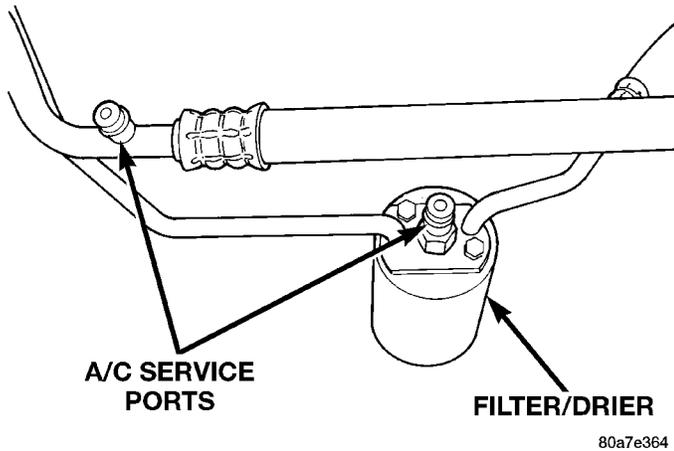

Fig. 17 A/C Service Ports
- Connect a manifold gauge set to the A/C service ports (Fig. 17).
- (1) If using a separate vacuum pump close all valves before disconnecting pump. Connect manifold gauge set to the A/C service ports (Fig. 17).